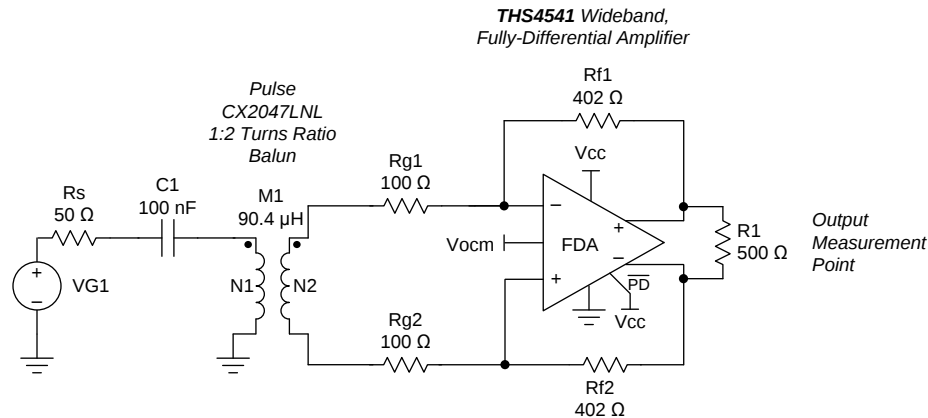
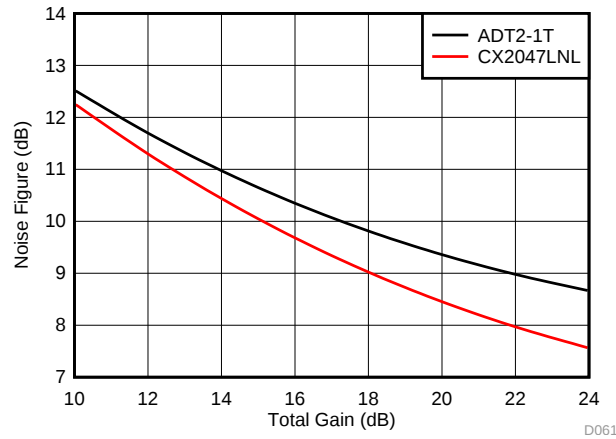

Figure 74. Input Balun Interface Delivers a Differential Input to the THS4541
Figure 75. Noise Figure versus Total Gain with the Two Input Baluns of Table 7
Transformer input coupling allows either a single-ended or differential source to be coupled into the THS4541; possibly also improving the input-referred noise figure. These designs assume a source impedance that must be matched in the balun interface. The simplest approach is shown in Figure 74, where an example 1:2 turns ratio step-up transformer is used from a 50-Ω source.
One way to use Equation 14 is to fix the input balun selection, and then sweep the FDA gain by stepping up the Rf value. The lowest-noise method uses just the two Rg elements for termination matching (no Rm element, such as in Figure 74) and sweep the Rf values up to assess the resulting input-referred noise figure. While this method can be used with all FDAs and a wide range of input baluns, relatively low-frequency input baluns are an appropriate choice here because the THS4541 holds exceptional SFDR for less than 40-MHz applications. Two representative selections, with their typical measured spans and resulting model elements, are shown in Table 7. For these two selections, the critical inputs for the noise figures are the turns ratio and the insertion loss (the 0.2 dB for the CX2014LNL becomes a $\beta = 0.977$ in the NF expression).
Using the typical input referred noise terms for the THS4541 ($e_{ni} = 2.2$ nV and $i_n = 1.9$ pA) and sweeping the total gain from the input of the balun to the differential output over a 10-dB to 24-dB span, gives the input noise figure shown in Figure 75.
The 50-Ω referred noise figure estimates show a decreasing input-referred noise for either balun as the gain increases through 24 dB. The only elements changing in these sweeps are the feedback-resistor values, in order to achieve the total target gain after the step up from the input balun. The example of Figure 74 is a gain of 7.86 V/V, or a 17.9-dB gain where a 9.0-dB input noise figure is predicted from Figure 75. Another advantage for this method is that the effective noise gain (NG) is reduced by the source impedance appearing as part of the total R_g element in the design. The example of Figure 74 operates with a $NG = 1 + 402 / (100 + 100) = 3$ V/V, giving greater than 300-MHz SSBW in the THS4541 portion of the design. Combining that with the 372 MHz in the balun itself gives greater than 200 MHz in this 18-dB gain stage; or an equivalent greater than 1.6-GHz gain bandwidth product in a low-power, high dynamic range interface.
Added features and considerations for the balun input of Figure 74 include: